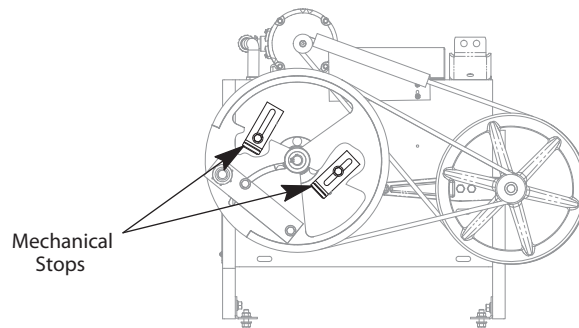

Figure 7 - Drive Sheave Mechanical Stops
5. Loosen the bolts holding the mechanical stops. See Figure 7.